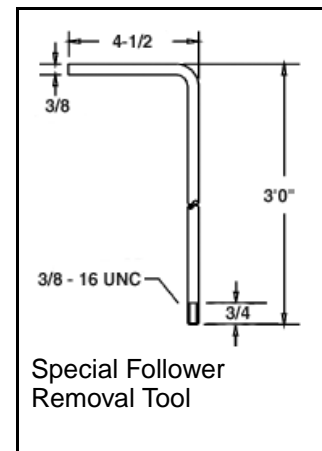

Figure 4
1. Secure the hook/case assembly (15) in vertical position with the hook down.
4. Use a special follower removal tool (Figure 4) to remove one half of follower. This is accomplished by threading into the follower flange, and raising the follower as high as possible. Then lower approximately .25 inch and tilt out. It may require some movement side to side and up and down to completely remove both of the follower halves. If the split follower bushing is badly worn and rotated, the follower may have to be rotated to align with the splits of the bushings before removing.
2. Install bonnet (31) onto hook (16) and install retaining ring (29).
4. Install hook thrust bearing (21). When being assembled, the thrust bearing must have the race with the large bore against the case or the hook will not swivel properly. The small bore race must be against the follower. The race bores should be measured with micrometers or calipers, as there is only .016 inch difference between upper race, and lower race. Large chamfer on outside diameter of lower race should be facing case. Large chamfer on inside diameter of upper race should be facing towards follower. Note: Before re-assembly of hook into the case, it is advisable to check the fit of the thrust bearing over the follower/bushing assembly. To accomplish this, the follower/bushing assembly can be clamped on the hook shank, and the thrust bearing fit over the follower. If the thrust bearing will not fit, then some light buffing of the inside surface of the follower bronze bushing may be required.
5. Install follower halves (20) onto the top of the hook thrust bearing using special follower removal tool (Figure 4 on page 7). The followers have a close fit around the hook and the case, so installation may